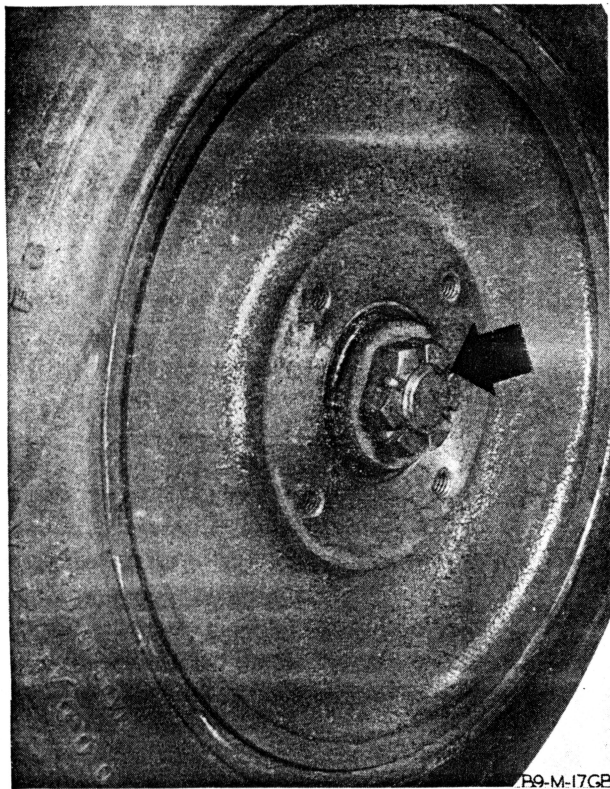

Fig. 31
3. Remove four cap screws holding hub cap to wheel and remove hub cap, cotter pin and nut and plain washer. See Fig. 31.